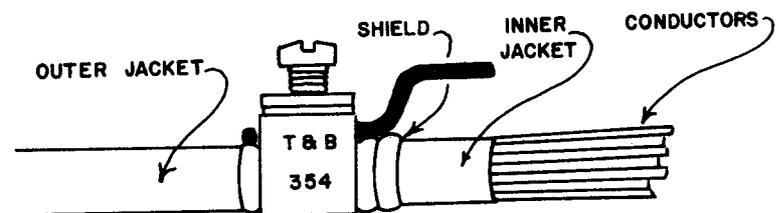

FIGURE 8
- 6.14 Twist the wire so that the side that was facing the pole is now facing you. Slip the T&B Lug It Connector down onto the shield of the wire and secure the bolt with a screw driver. See Figure 8.
7.06 Remove the T & B Lug It from the terminal lug and position it on the shield as shown in Figure 8 and tighten the screw securely.
- 7.20 Remove the T & B Lug It Connector from the ground terminal stud and position it on the wire as shown in Figure 8. Tighten the screw securely.